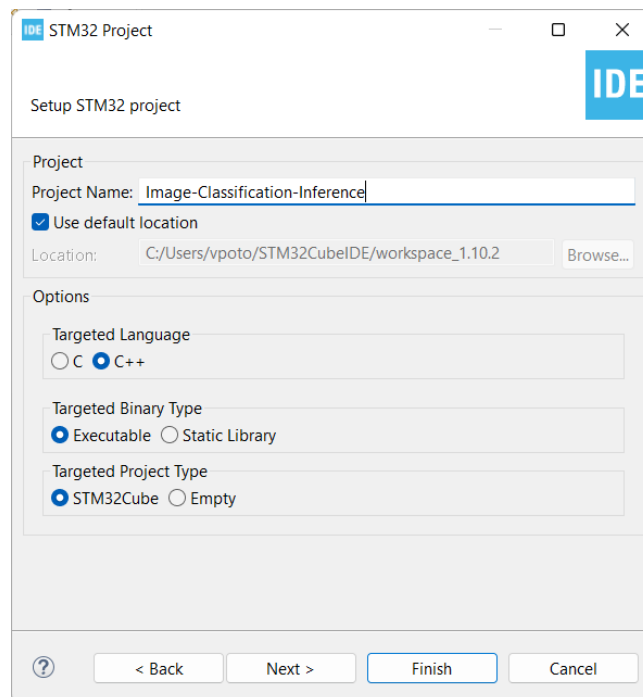

Figure 1: Creating a new C++ STM32 CUBE IDE project from scratch for image classification on the MCU.
1. Create a new project with STM32 CUBE IDE . Make sure to give the project an appropriate name. Furthermore, you have to configure the project as a C++ project as shown in Figure 1.